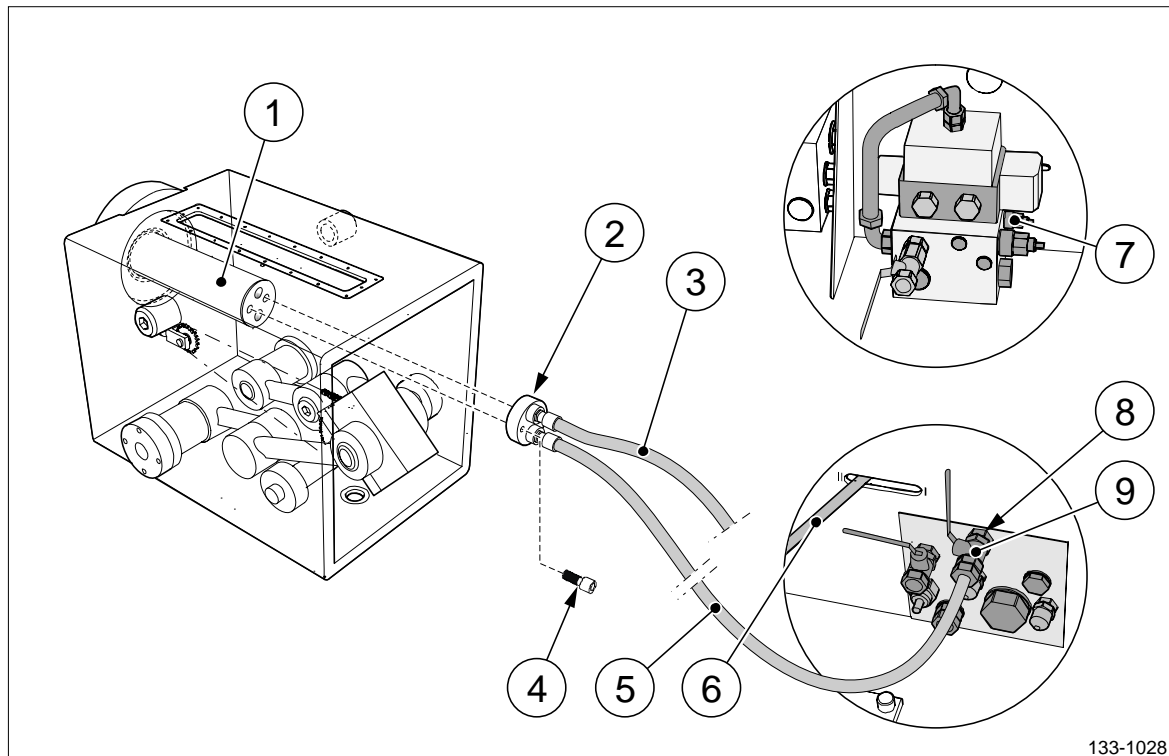

Figure 4 OD-box prepared for emergency pitch control mode 2.
11. If the pressure is out of range the pressure relief valve V14 (pos 7, figure 4) has to be adjusted.
1. Use the two screws to connect the emergency plunger (pos 4, figure 4) to the oil transfer tube (pos 1, figure 4). Note the position of the emergency plunger is given by the guide pin.
2. Connect one emergency hose (pos 5, figure 4) to connection B on the emergency plunger.
3. Connect one emergency hose (pos 3, figure 4) to connection A on the emergency plunger.
4. Connect the other end of hose B to the quick connection on the shut-off valve V22 (pos 9, figure 4) which is connected to the EP (pos 8, figure 4) on the emergency block on the hydraulic power pack.
7. Set the emergency control valve V12 to EMERG CONTROL 2 (pos 6, figure 4).
8. Carefully, open the shut-off valve V22 (pos 9, figure 4). The pressure from the pump unit P3 will move the pitch.